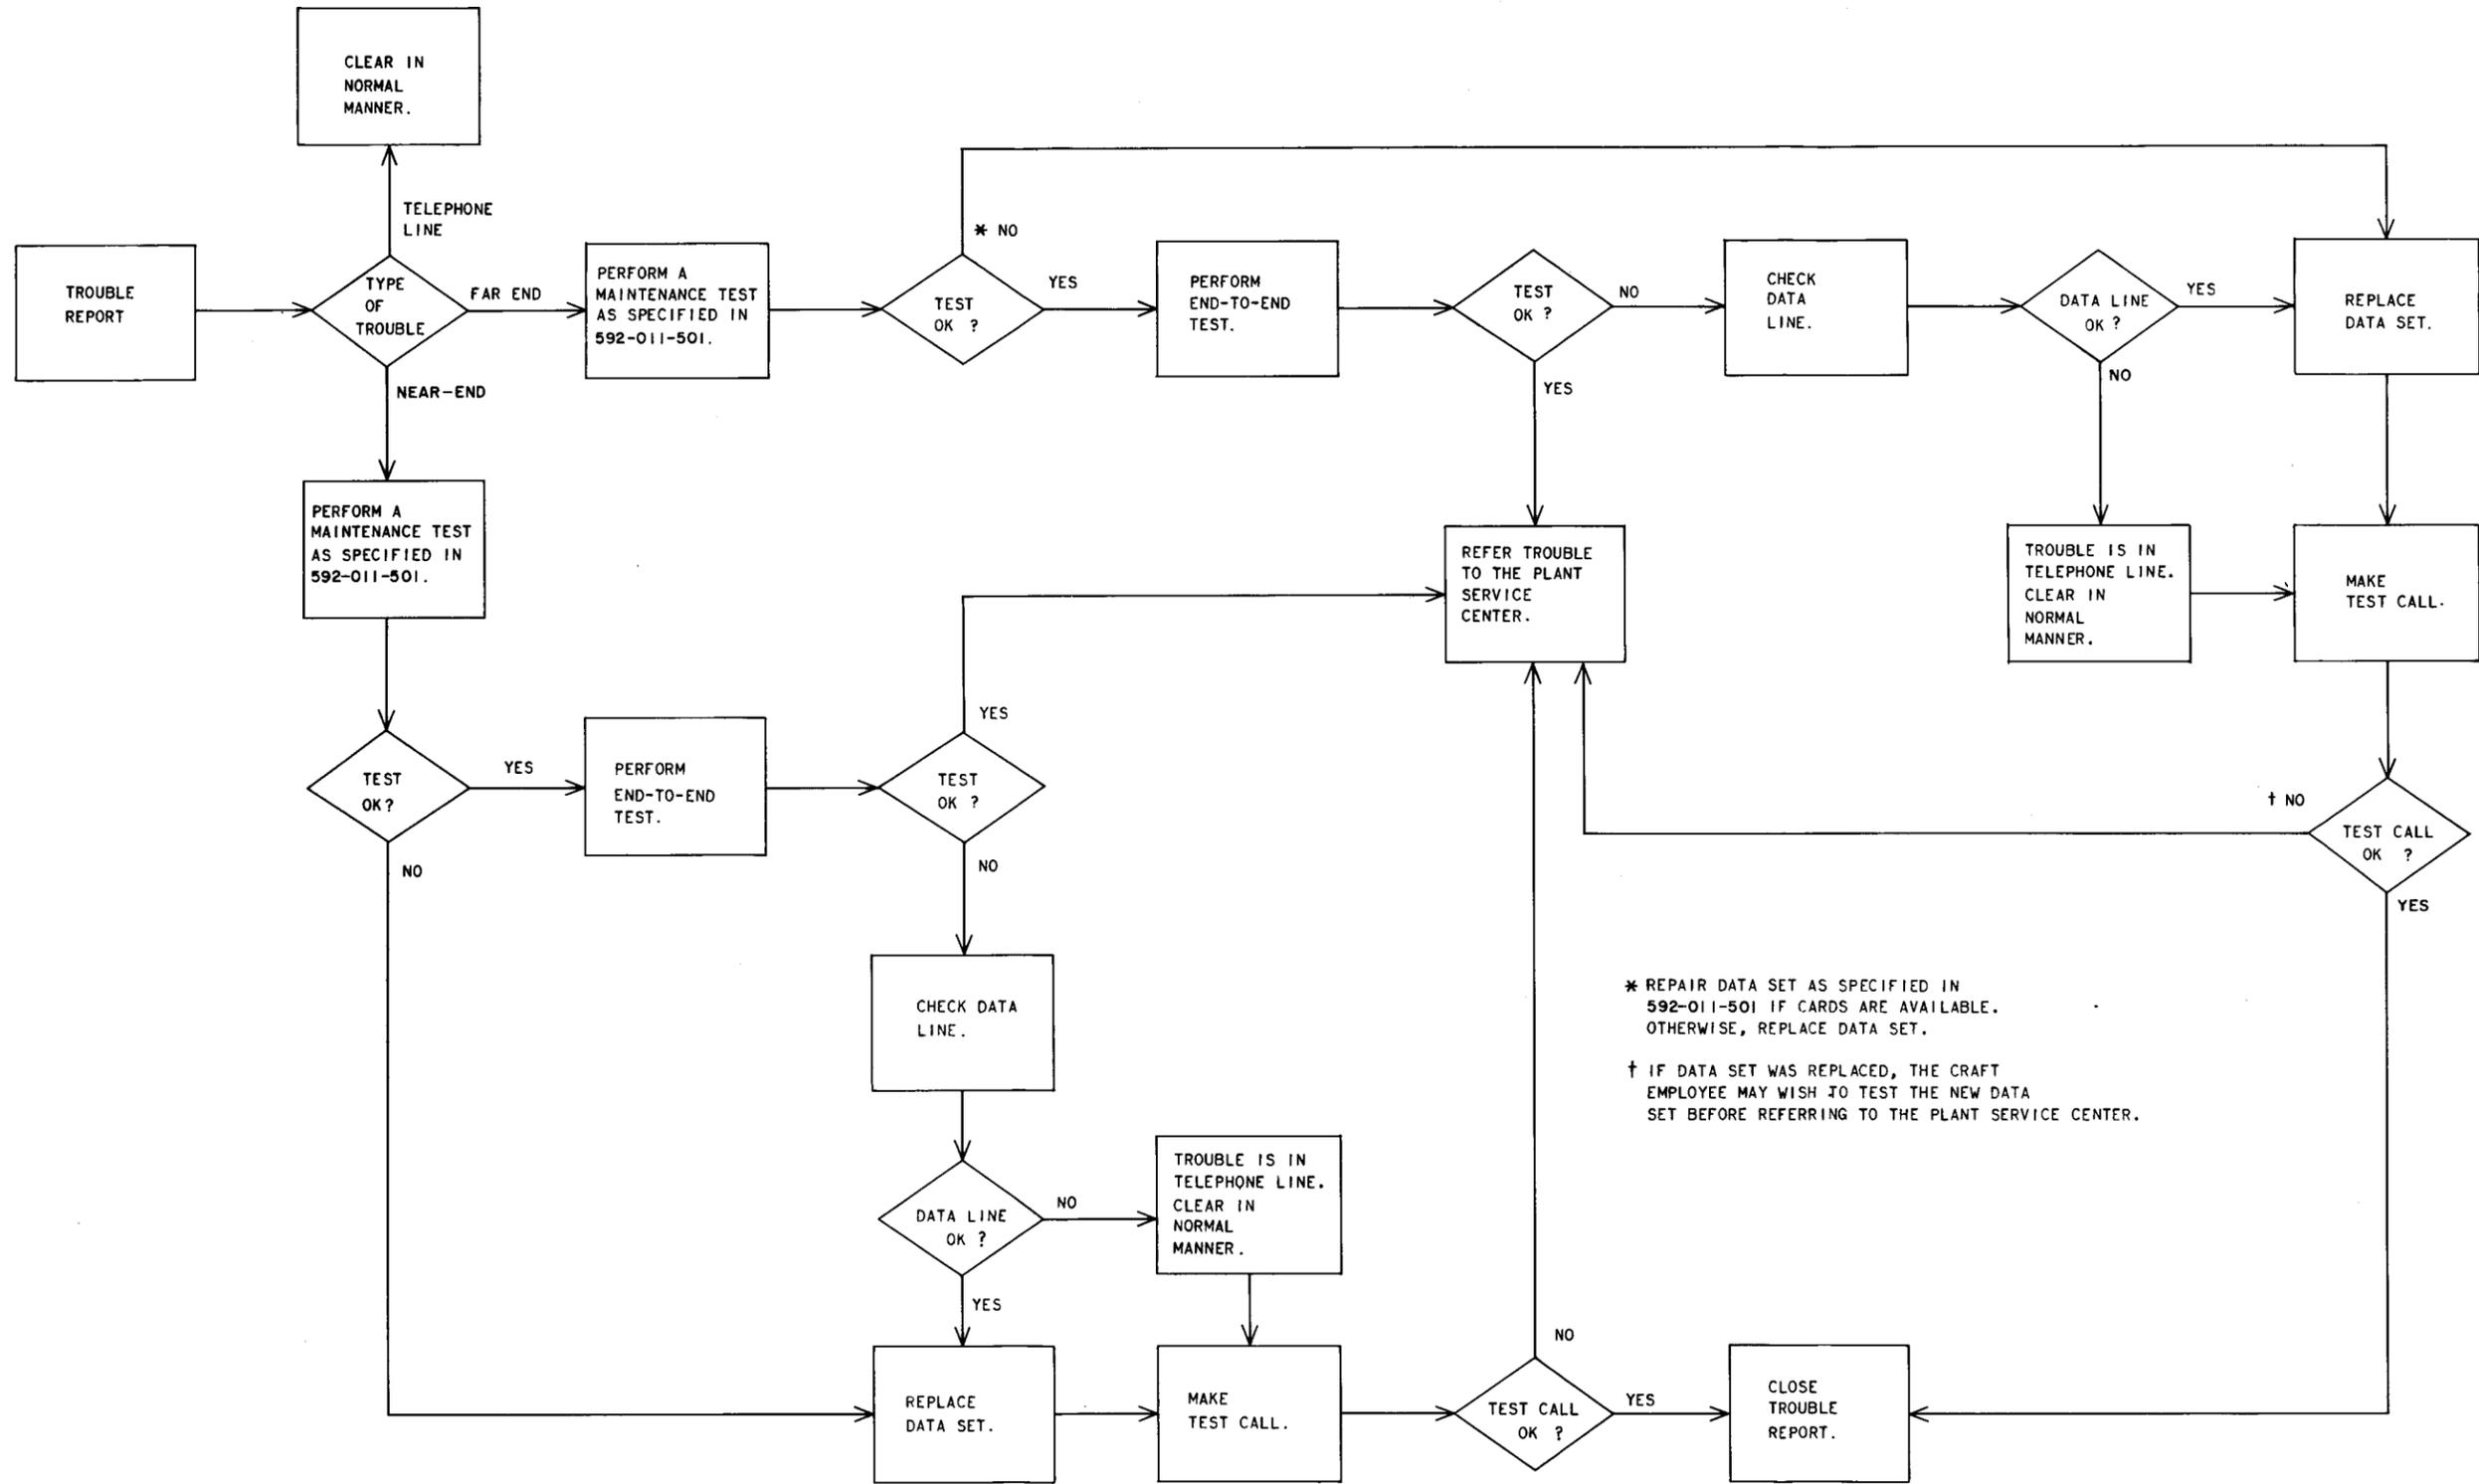

Fig. 1—Trouble Reporting and Investigating
**2.01** When investigating a trouble report, proceed as outlined in Fig. 1. For information on testing Data Sets 201A3, A4 and 201B3, B4, refer to Section 592-011-501. If the 914B Data Test Set (DTS) is used, it will be necessary to first perform the installation test in order to obtain the information required for finding and replacing the defective cards in the data set. If new cards are not available to replace any defective cards, the data set must be replaced. When replacing a data set, the new data set must have the same option strapping as the data set being replaced.